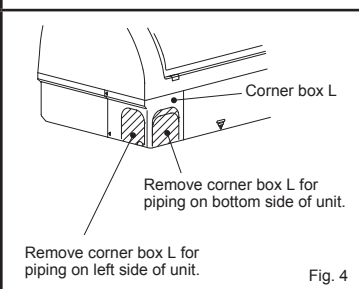

Fig. 4
- 10) According to the piping direction, remove the shaded part of the corner box L (Fig. 4) or corner box R (Fig. 5). Reinstall electrical cover, corner box and front panel.
- Insert the drain hose fully into the drain pan at the back right of the indoor unit. (Fig. 4)
- Insert the drain hose into wall hole sleeve (C), and attach the upper part of indoor unit onto the installation plate (1). Then, shift the indoor unit completely to the left to make placing the piping in the back of the unit easier.
- 4) Flaring work (Fig. 4, 5). Firmly hold copper pipe in the dimension shown in the table. Select A inch (mm) from the table according to the tool you use.